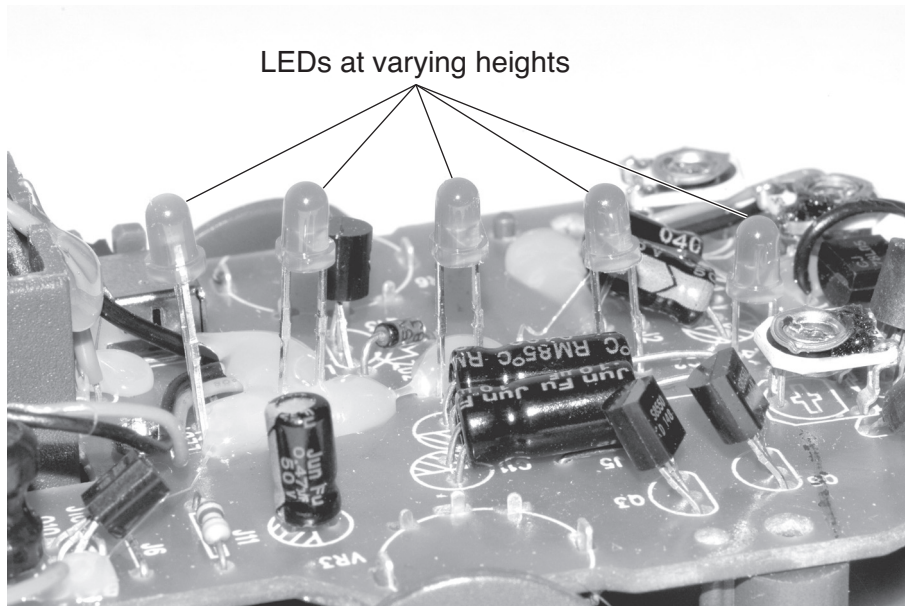

Fig. 20
- (d) Fig. 20 shows the LED indicators on the circuit board. The LEDs have been soldered into position at varying heights to match the curve of the case.